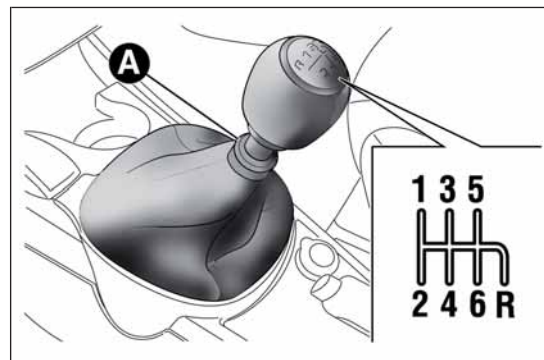
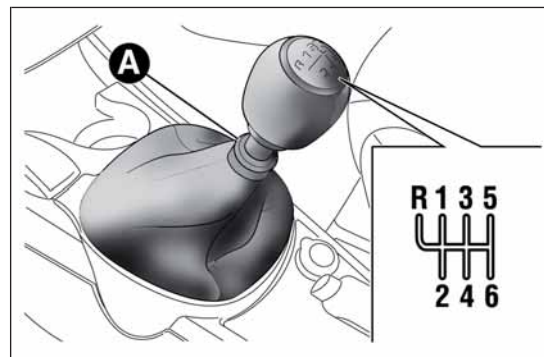
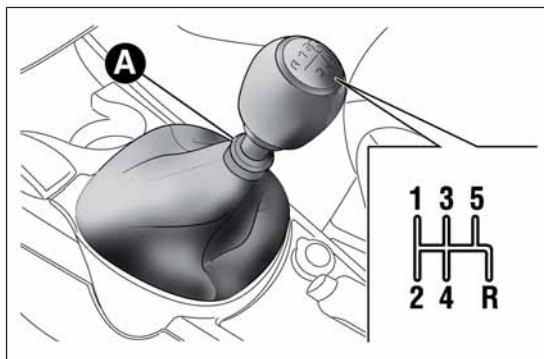

fig. 110
fig. 111
fig. 112
To engage the gears, fully depress the clutch pedal and put the gear lever into the desired position (the diagram for gear engagement is shown on the knob of the lever fig. 110, fig. 111, fig. 112).
- on 1.4 Turbo MultiAir 170 HP Quadrifoglio Verde and 1.6 JTDM versions, move the lever to the left and then forwards fig. 111;
- on Turbo TwinAir, 1.4 Petrol, 1.4 Turbo MultiAir and 1.3 JTDM-2 versions, move the lever to the right and then backwards fig. 110 and fig. 112.